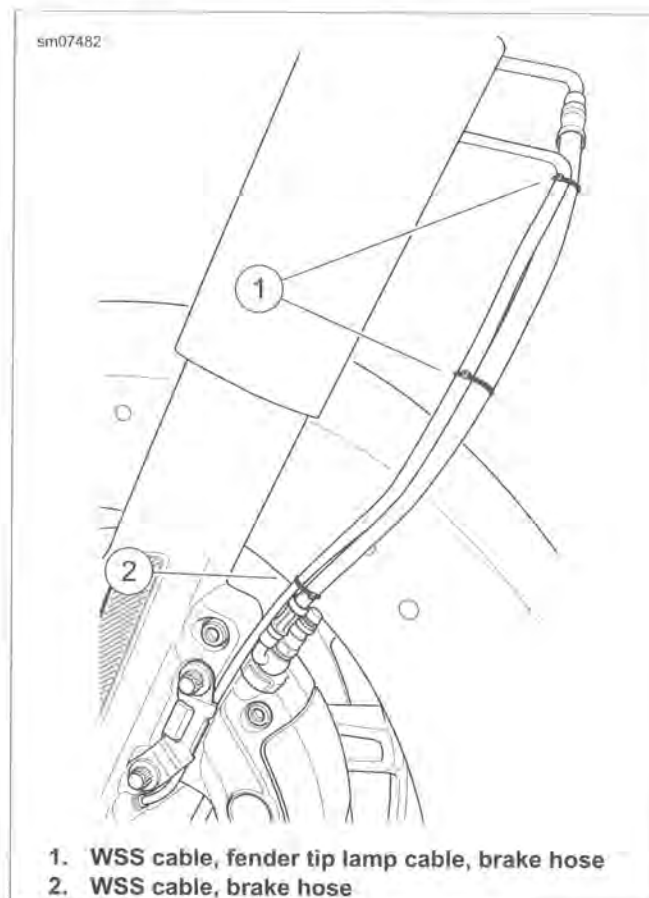

Figure 2-47. Secure Cables and Brake Hose
- See Figure 2-47. Install **new** cable straps (1, 2) to secure WSS and fender tip lamp cables.